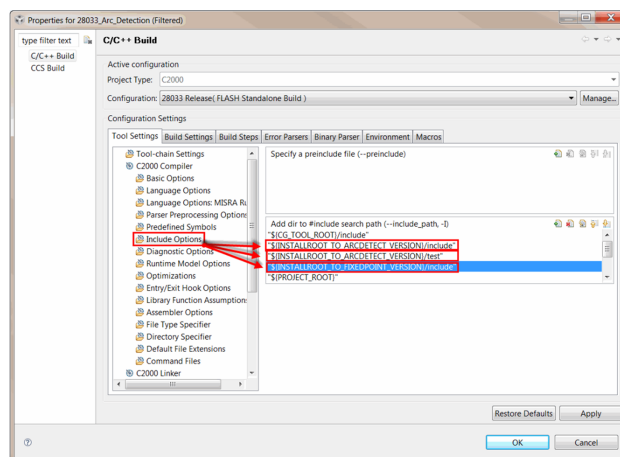

Figure 18. Adding the Include Search Path for the Library
1. Go to the **Project Properties->C/C++ Build->C2000 Compiler->Include Options**(see Figure 18) and add the relative path,